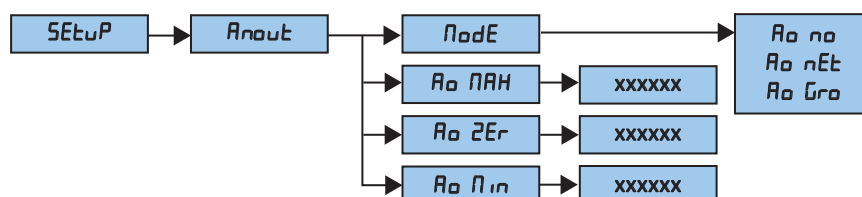

Figure 4-7. Analog Output Menu
1. Enter setup mode and go to the $R_n \text{ OUT}$ menu (see Figure 4-7 on page 29).